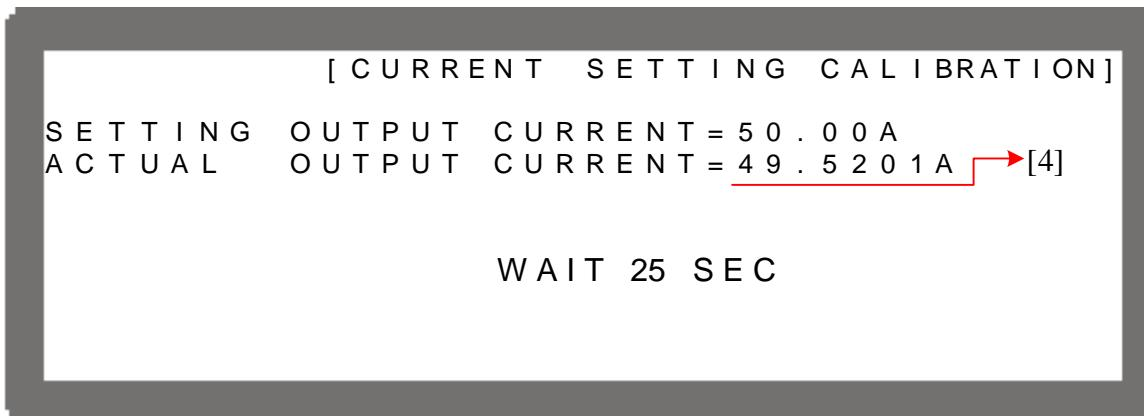

Figure 3-115
11. Press “” will perform 50A calibration. The system will set the output current to 50.00A automatically and appear second reading screen. Once the reading is done, the cursor will stop at position [4] as Figure 3-115 shows. Input the current (4 digits after decimal point) read by Current Shunt (DVM) and press “” to confirm.